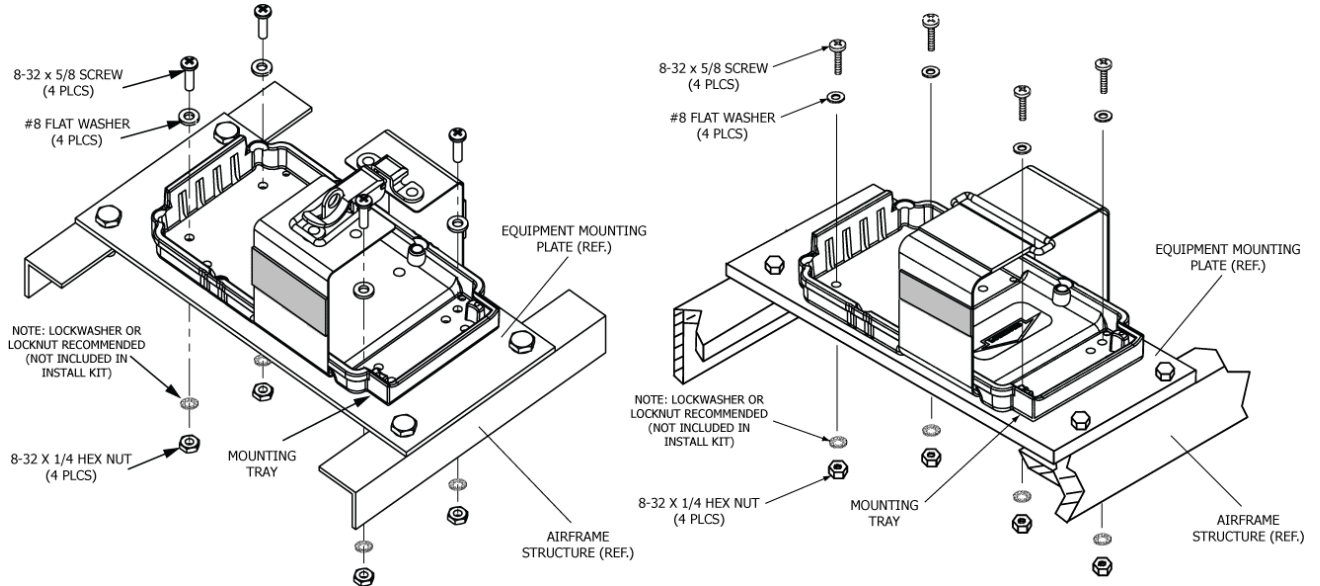

Figure 17 Typical Mounting Tray Installation
- 1) See Figure 17 Typical Mounting Tray Installation.